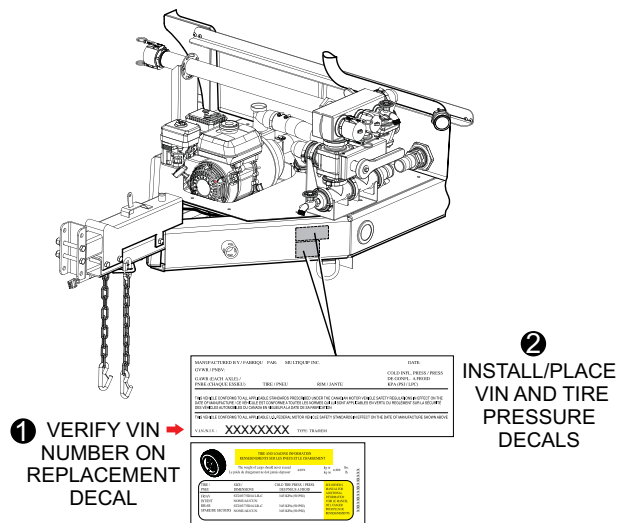

Figure 8. VIN/Tire Pressure Decals (Placement)
4. Place the replacement VIN and tire pressure decals as shown in Figure 8.